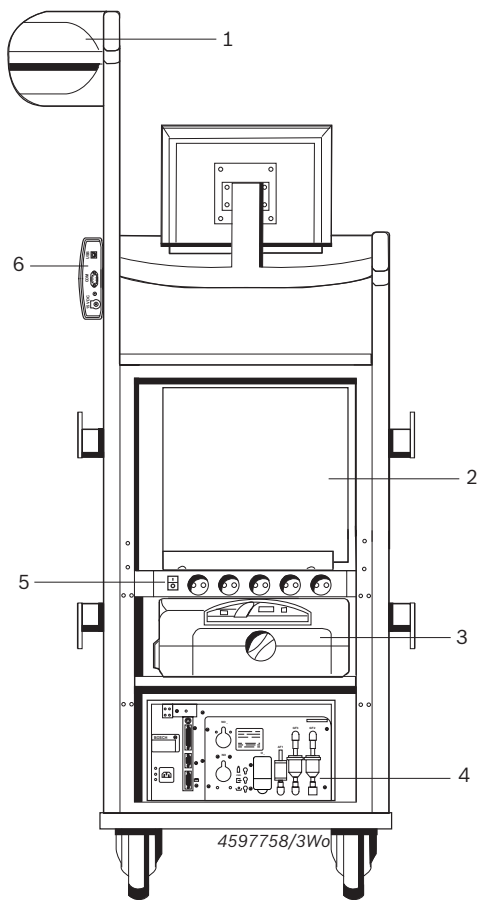

Fig. 2: FSA 740 Edition rear view without rear wall
Switch the FSA 740 Edition on or off with the central mains switch on the rear of the device (see Fig. 2; item 5).